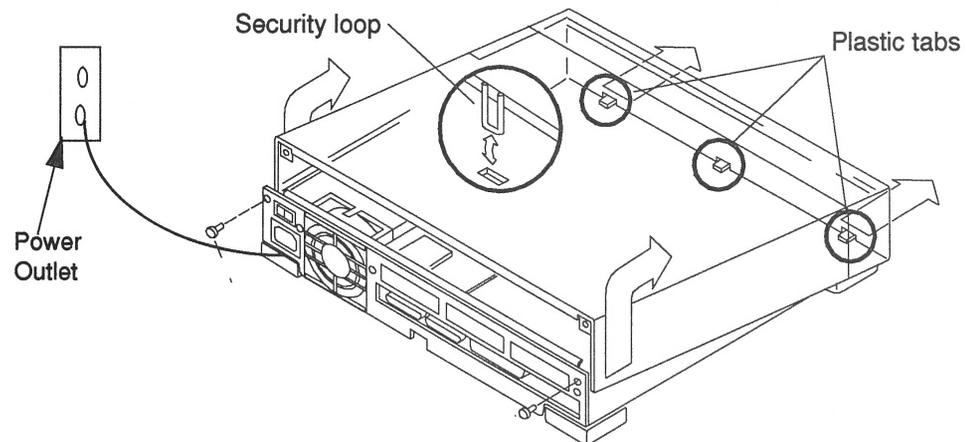

Figure 4-1 Removing the SBus Expansion Subsystem Cover
- 2. Use a #2 Phillips screwdriver to remove the two screws holding the cover to the back panel. Refer to Figure 4-1.**
- 5. Remove the cover by lifting vertically. Refer to Figure 4-1.**